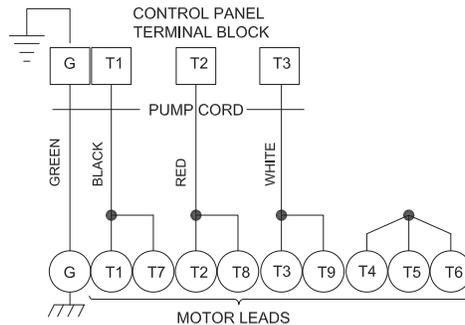

FIGURE 4 - THREE PHASE 230 VOLT AC
Reassemble by first making wire connections per Figure 4. Attach ground wire (30) to cover plate (5) with screw (26) and washer (27). Apply thread locking compound to cap screws (19), and along with washers (20) and cover plate, assemble to motor housing (1). Torque to 16 ft lbs. Tighten cable connectors (32) and (36) to 15 ft lbs to prevent water leakage.
Wiring Connections - Check power cable (29) and control cable (34) for cracks or damage and replace if damaged. Bring motor wires through opening in top of motor housing (1) and reconnect motor leads to power cable and sensor leads to control cable using connectors (31) and (33) per Figure 4.